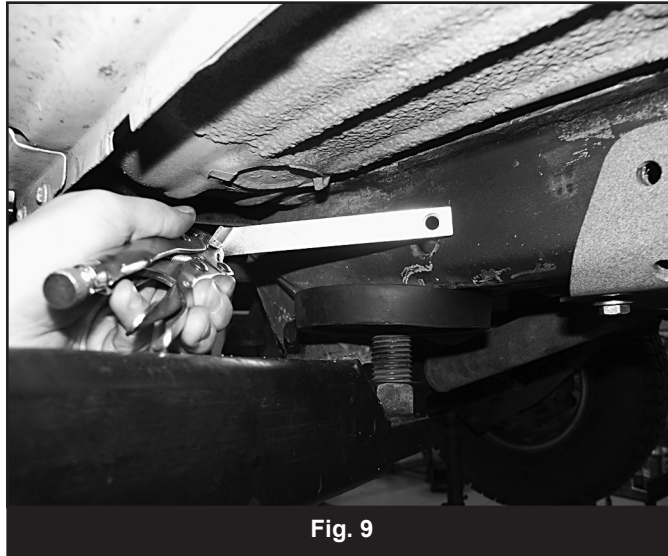

Fig. 9
22. Install the side supports back into position with the same hardware as before. Lightly snug the hardware. Install the provided nut tab (01377, 01378) in the slotted hole in the frame in front of the side support (Fig 9), back to the 7/16" hole drilled earlier (the nut tabs are driver's and passenger's side specific to match the angle of the slot). Loosely fasten the side support with a 7/16" x 1-1/4" bolt and 3/8" USS washer (BP 715) into the nut tab.